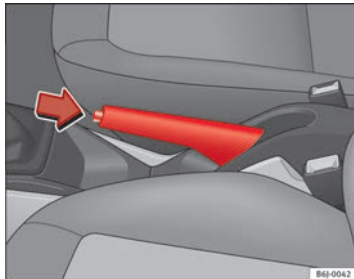

Fig. 119 Handbrake between the front seats
- Pull the handbrake lever up firmly ⇒ **fig. 119**.
- Pull the lever up slightly and press the release knob in the direction of the arrow ⇒ **fig. 119** and guide the handbrake lever down fully ⇒ .